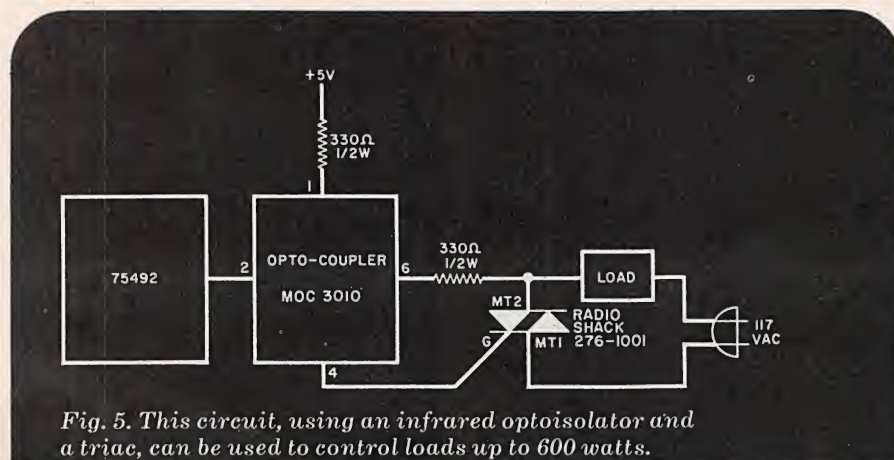

Fig. 5. This circuit, using an infrared optoisolator and a triac, can be used to control loads up to 600 watts.
**Control of AC Appliances.** An alternative to a relay or simple light coupler is shown in Fig. 5. The Motorola MOC 3010 is an optoisolator that houses an infrared diode and a small triac. The low power triac, in turn, controls a larger triac, such as the Radio Shack No. 276-1001 that switches the ac power to the load. The rating of the larger triac determines the maximum wattage that can be controlled. For example, the 276-1001 will work with appliances consuming up to 600 watts. Pulsing the appropriate port under program control will result in partial power being delivered to the appliances, allowing the computer to dim lights and run motors at variable speeds.